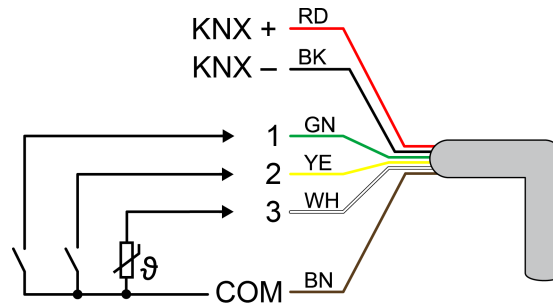

Figure 2: Connection assignment of control cable (example)
- If required, connect potential-free contacts or dew/leakage sensors to inputs 1...3, or NTC temperature sensors to input 3 (Figure 2).